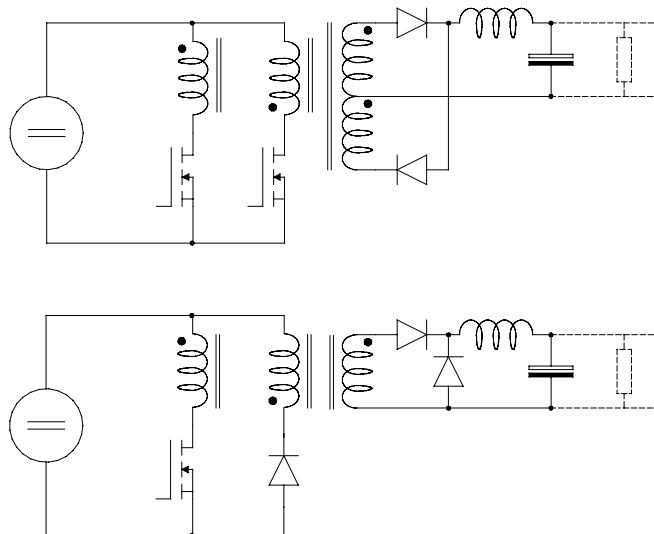

Figure 4 Isolated Buck SMPS
- (b) Figure 4 shows two isolated buck converters (also known as the push-pull and forward converters). Discuss the issues relevant to choosing between the designs.